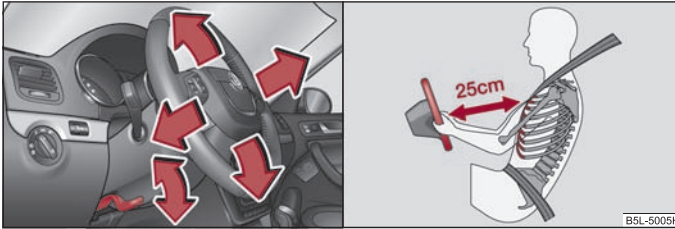

Fig. 108 Adjustable steering wheel: Lever next to the steering column/safe distance to the steering wheel
- Pull the lever below the steering wheel down ⇒ fig. 108 - left ⇒ ⚠.
- The driver must maintain a distance of at least 25 cm to the steering wheel ⇒ fig. 108 - right. Not maintaining this minimum distance will mean that the airbag system will not be able to properly protect you - hazard!